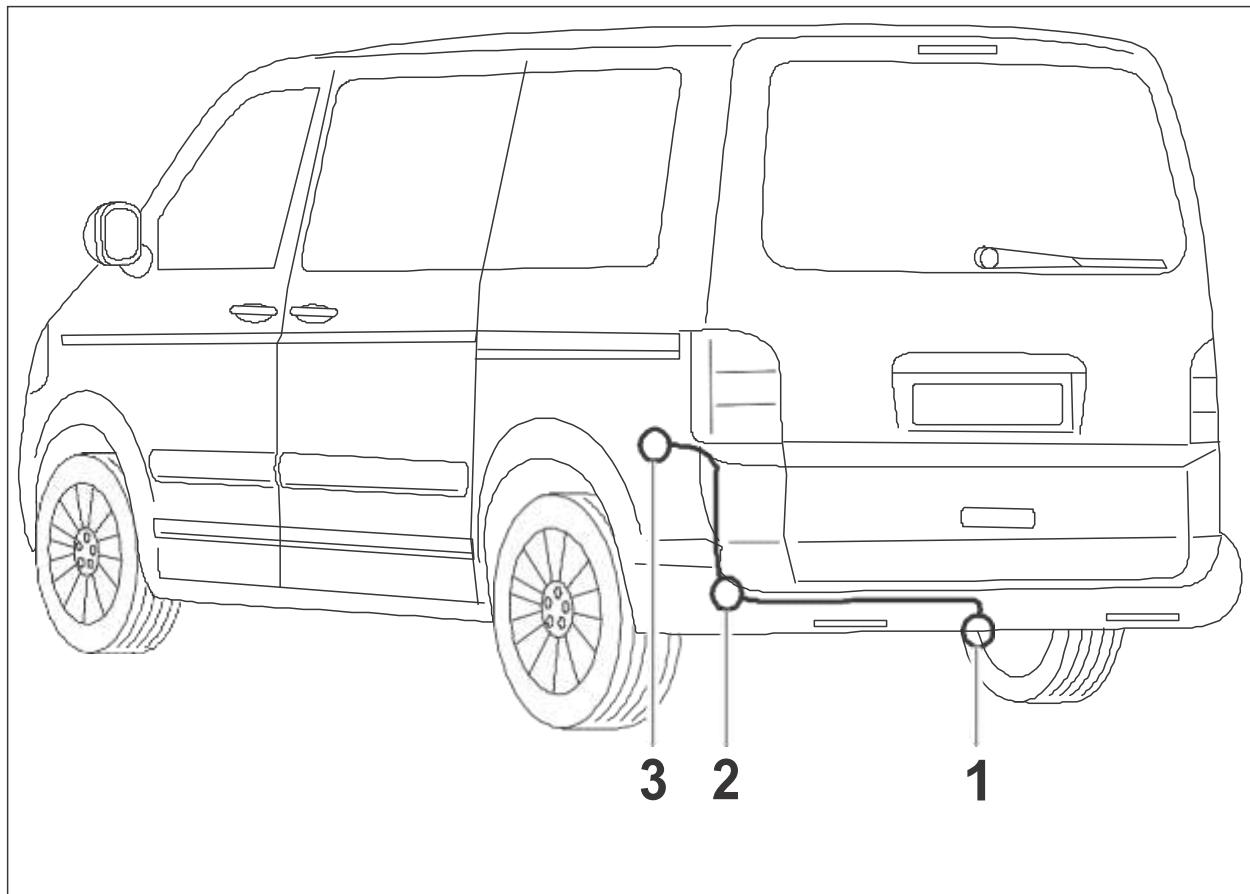

Fig. 1: Installation overview
3. Guide the socket end of the cable harness through the grommet (fig. 1/2) on the rear left-hand side of the vehicle round the outside to the socket retaining plate (fig. 1/1). Seal the grommet with the butyl tape from the scope of delivery.
7. Screw the socket to the mounting plate (Fig. 1/1) using the screws in socket.
9. Mount the vehicle's grommet (fig. 1/2) to the wiring harness, slide it along the wiring harness and insert it into the hole in the vehicle from the outside. Seal the grommet with the sealing plate (butyl tape) from the scope of delivery.
10. Insert the 8 and 12-pole connectors onto the equivalent mating connectors on the rear left of the coupling point (Fig. 1/3) and click into place. Where necessary remove any existing 8-pole bridging connectors already installed in the vehicle (no longer required).